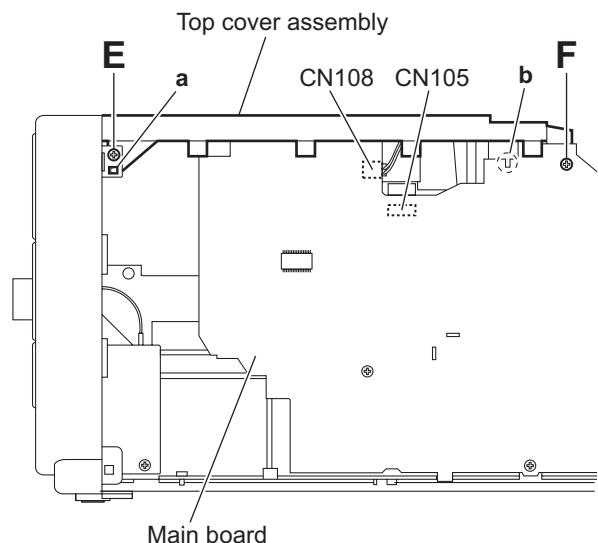

Fig.5
- (3) From the right side of the main body, disconnect the card wire from the connector CN105 on the main board. (See Fig.5.)
- (4) Disconnect the wire from the connector CN108 on the main board. (See Fig.5.)
When connecting the wire, pass it through the slot **b** of the main board as before. (See Fig.5.)